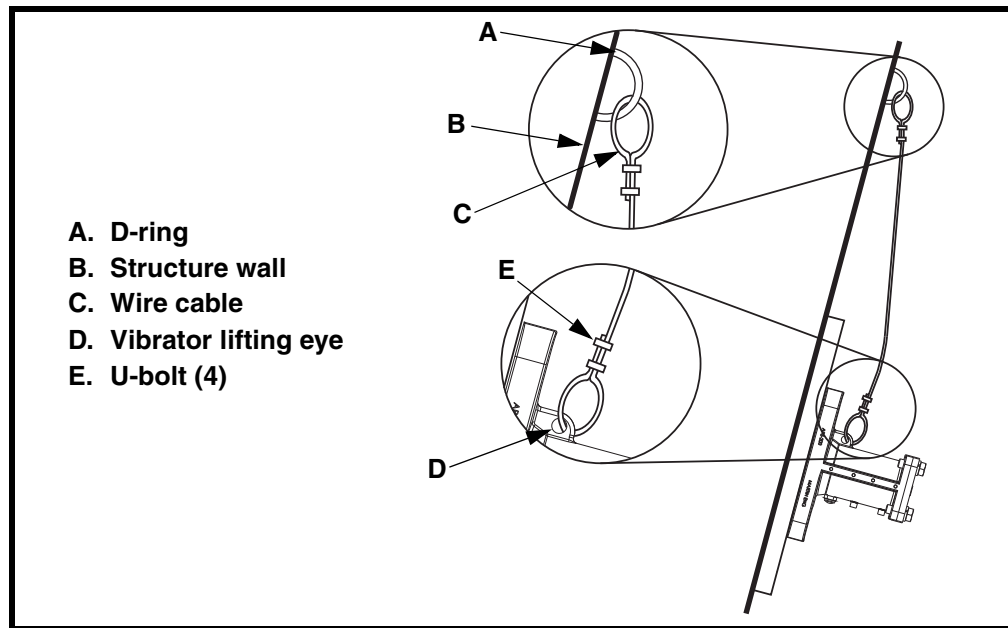

Figure 5. Installing Vibrator Safety Cable
- a. Weld D-ring (A, Figure 5) onto structure wall (B) above vibrator.
- b. Loop 1/8-in. (3 mm) wire cable (C) through hole in vibrator top plate (D) and D-ring on structure wall.